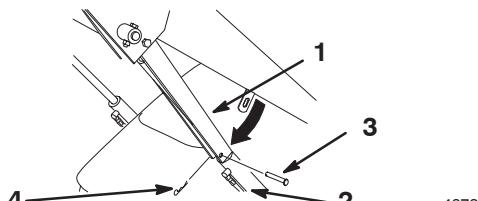

Figure 13
- Remove the hairpin cotter and clevis pin securing the cylinder lock to the loader arm (Fig. 13)
- Lower the cylinder lock over the cylinder rod and secure it with the clevis pin and hairpin cotter (Fig. 13).
- Rotate the cylinder lock up to the loader arm and secure it with the clevis pin and hairpin cotter (Fig. 13).